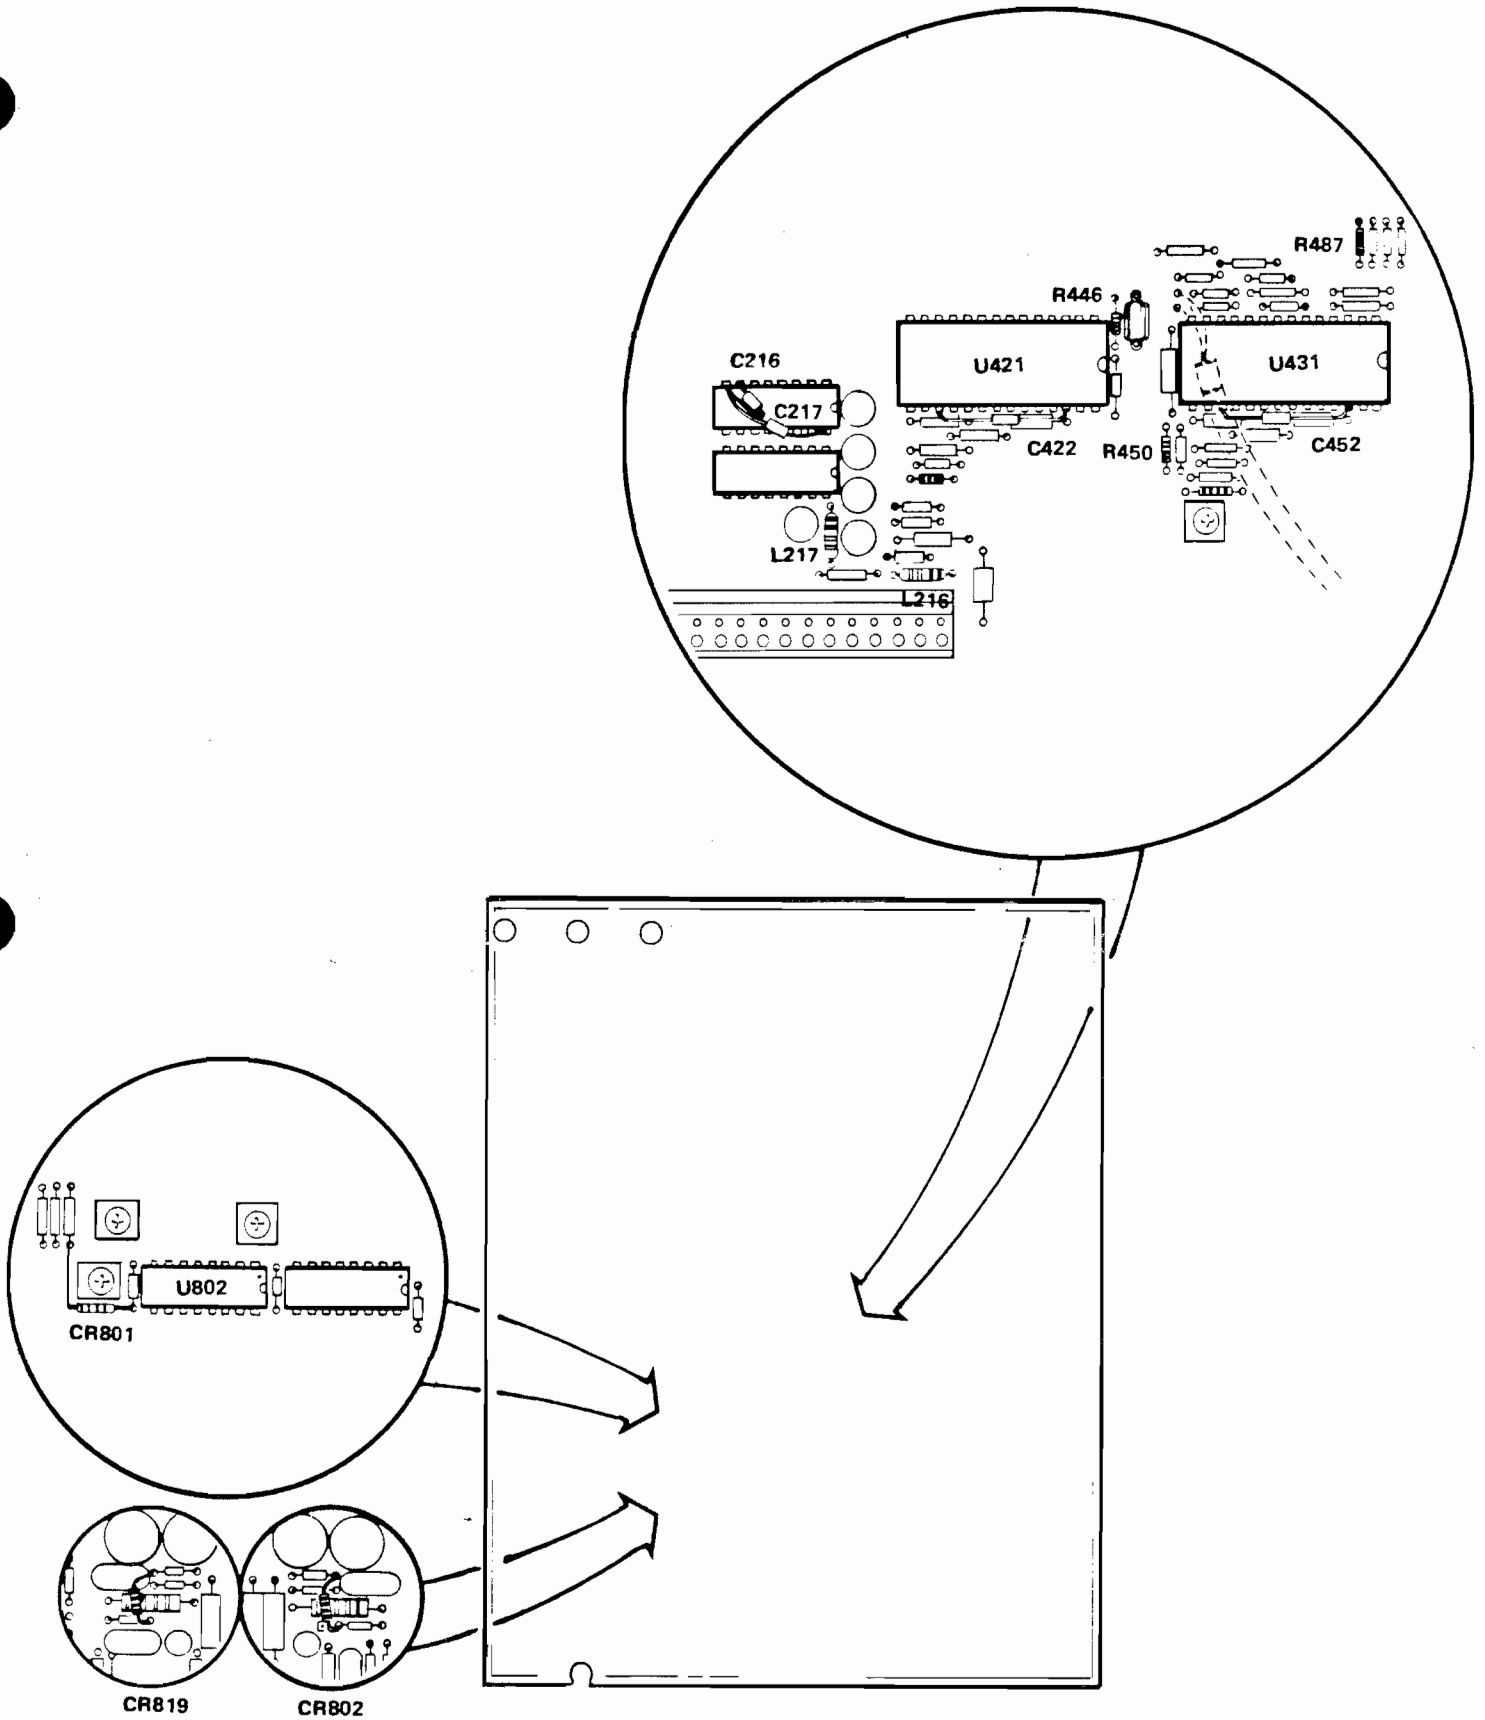

Fig. 2 - Main Board Modifications
- () 18. Add CR801 (may already be present on 2245's above B010374 or 2246's above B040932): cathode to W804 and anode to the end of C816 going to -5V (see Fig. 2).
- () 21. Relocate C422 and C452 (fresh components are provided in the kit): C422 to U421, pins 17 to 26 and C452 to U431, pins 17 to 26 (see Fig. 2). Please note that this is not an electrical change; schematically C422 and C452 are in the same location.
- () 22. Relocate C216 (a new capacitor is included in the kit) to U202, pins 7 to 8 (see Fig. 2).
- () 23. Add C217 (0.022 μ F capacitor from the kit) from U202, pin 8 to pin 16 (see Fig. 2).